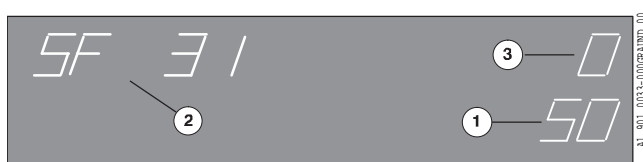

Fig. 20 SF 31: Block preselection tape inserter
In addition to the identification code of the special function selected (Fig. 20/2), the last value entered is displayed; in this case SF 31 = tape inserter, block size 50 (Fig. 20/1).
3. Press the *Delete* button. 0 flashes in the display (Fig. 20 /3).
If the *Numerical preselection* special function is selected in **production mode**, the display shows how the current block is being processed counting backwards above the block size set (Fig. 20/3).